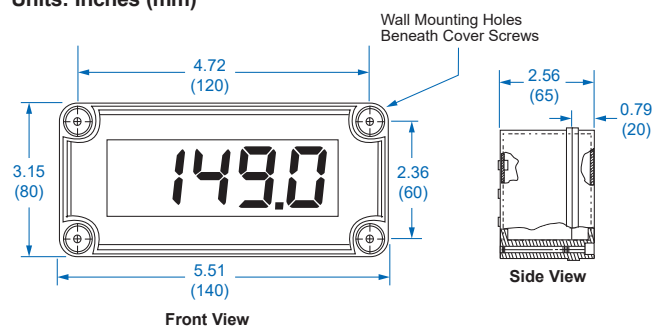

Figure 4: Dimensions and Wall Mounting Information
2. Insert mounting hardware into mounting holes in enclosure base (see Figure 4).
Installation of the meter involves removing the Display PCB from its enclosure and connecting a ½" conduit fitting to the hole provided. Refer to PD686 FM Approved & CSA Certified Loop-Powered Meter Intrinsic Safety Barrier Connections diagrams (LIM686-2, Dwg No 1155) for further details. Wall mounting holes are located in each corner of the enclosure (see Figure 4).